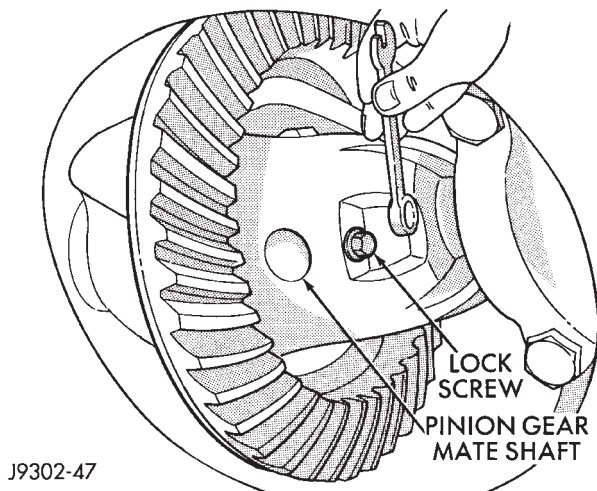

Fig. 23 Mate Shaft Lock Screw
- (1) Raise and support vehicle. Ensure that the transmission is in neutral.
- (2) Remove wheel and tire assembly.
- (3) Remove brake caliper and rotor. Refer to Group 5, Brakes, for proper procedure.
- (4) Clean all foreign material from housing cover area.
- (5) Loosen housing cover bolts. Drain lubricant from the housing and axle shaft tubes. Remove housing cover.
- (6) Rotate differential case so that pinion mate gear shaft lock screw is accessible. Remove lock screw and pinion mate gear shaft from differential case (Fig. 23).